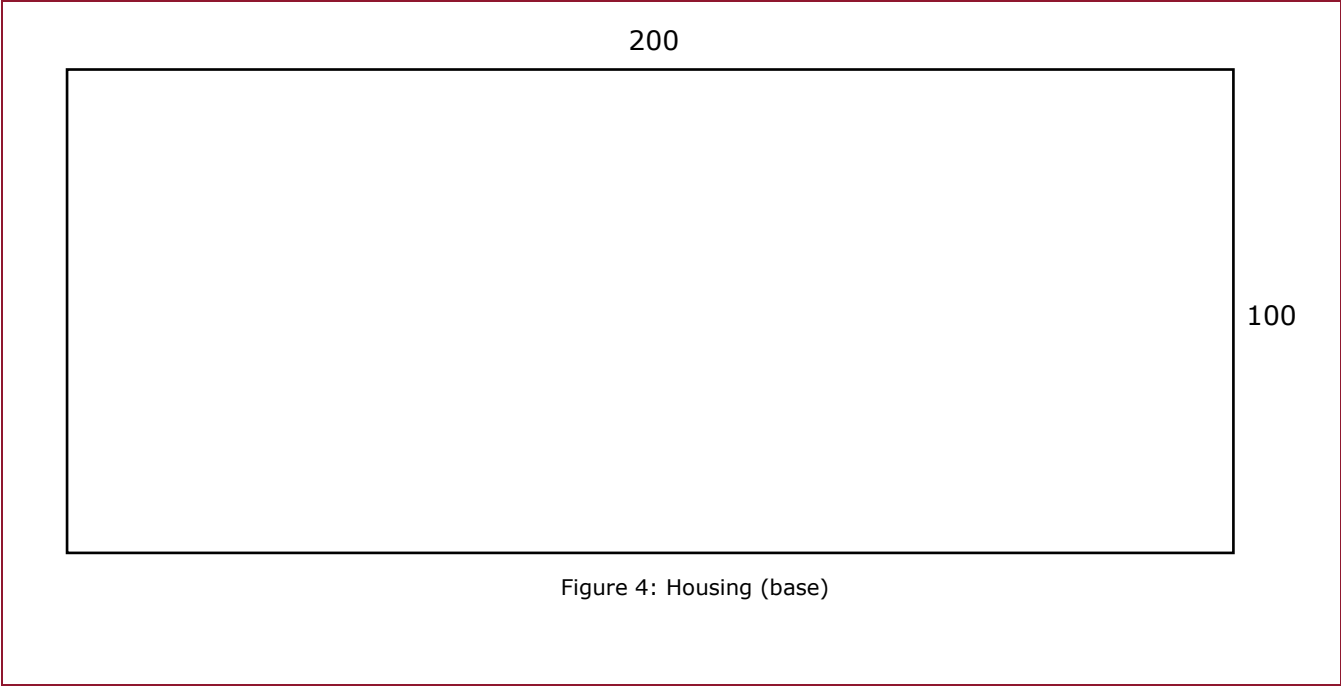

Figure 4: Housing (base)
3. **ONE** piece of wood required for the base to be cut from 15 mm material (plywood or MDF) according to Figure 4.